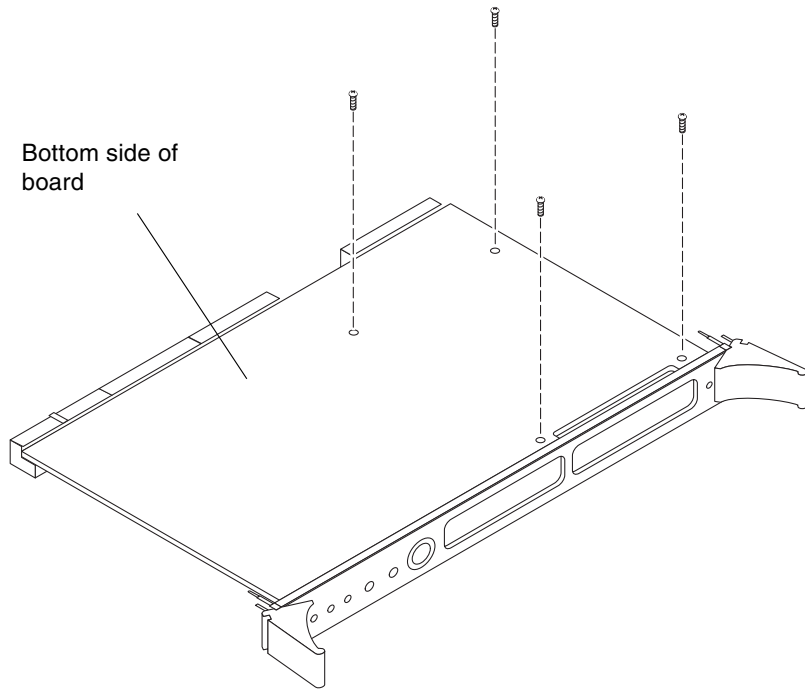

FIGURE 2-7 Securing the PMC Screws
9. **Turn the Netra CP2300 board over and use a screwdriver to secure the four screws that attach the PMC to the Netra CP2300 board** (FIGURE 2-7).